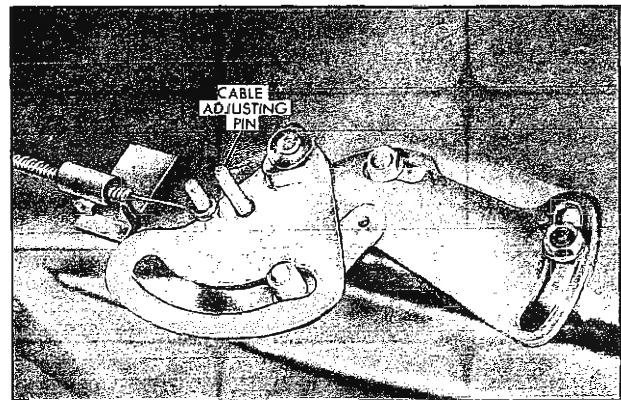

Fig. 12-3 Temperature Control Cable Adjusting Pin in Position
The fan control lever has four distinct positions - OFF, LO, MED, and HI; HI is in the full up position, LO and MED partially down, and OFF in the full down position (Fig. 12-3).
3. Adjust turnbuckle as necessary to allow 3/16"-diameter gauge pin to pass freely from control cam into bracket on heater case (Fig. 12-3).